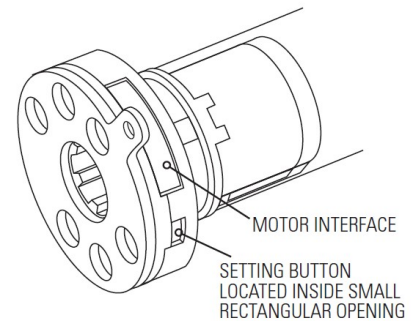

Figure 3: Wand Motor Head
- a. Use a pencil eraser to push firmly on the wand plug and ensure that it is fully seated in the motor interface. [Figure 3]
2. If after re-charging the battery the shade still won't operate, check the motor. Use an opened paperclip to press the setting button on the motor crown [Figure 3]
1. Press & hold the Setting Button [Figure 3] on the motor crown until the shade jogs 3 times. This removes all programming. NOTE: There is a longer pause between the 2nd and 3rd jogs.
If for some reason the shade direction is reversed, press & hold the Setting Button [Figure 3] on the motor crown until the shade jogs 2 times.